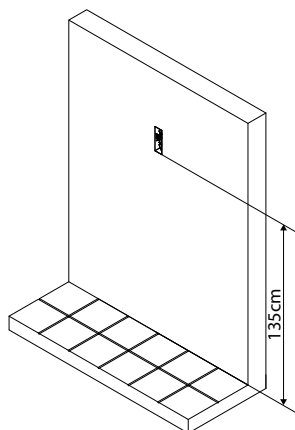

Fig. 1
Volume adjustment trimmers are available for both microphone and speaker and are located at the bottom of the unit. (Fig. 1 reference "M").
1. Protect the holes to fix the intercom to the flush mounting box then embed the flush mounting box in line with the wall in vertical position at 135cm height from the floor as shown in **Fig. 1**;